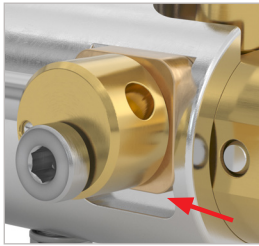
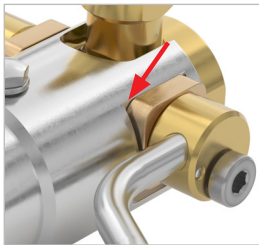

Figure 16
Figure 17
- ▶ Apply with a small screwdriver a thin film of WEH® Lubricant between the cams (red arrow, *Figure 16* and *Figure 17*). **Attention:** The lubricant must not be allowed to enter the gas channel.